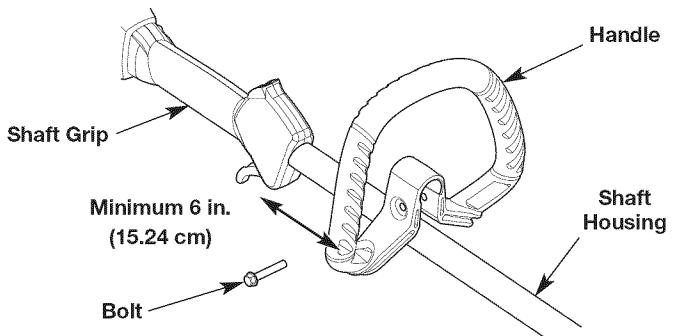

Fig. 2
1. Loosen the bolt with a 3/8" socket (Fig. 2).
2. While holding the unit in the operating position (Fig. 10), move the handle to the location that provides the best grip. Place it a minimum of 6 inches (15.24 cm) from the end of the shaft grip (Fig. 2).